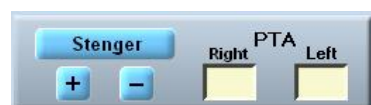

Figure 74
**PTA:** Displays Pure-Tone Average from tone screen (Figure 74).